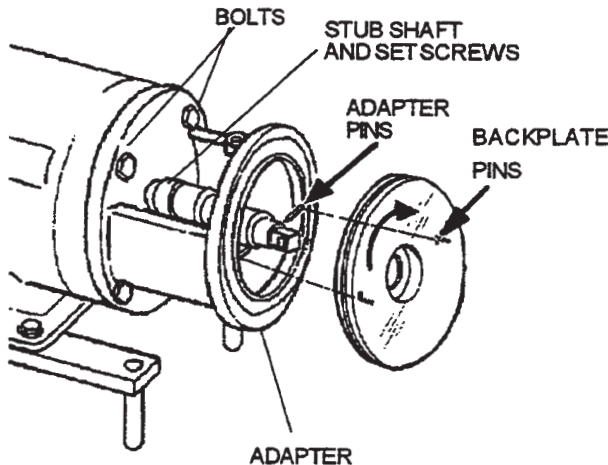

Figure 13
- Install the adapter to the motor, with the drain cavity at the bottom. Insert the four bolts to secure the adapter to the motor. Tighten the bolts (see Figure 13).
- Place the stub-shaft assembly onto the motor shaft (see Figure 13). DO NOT tighten the shaft setscrews.
- Install the back-plate on the adapter and rotate it until the back-plate pins engage the adapter pins (see Figure 13), ensuring solid contact of the back-plate to the adapter.